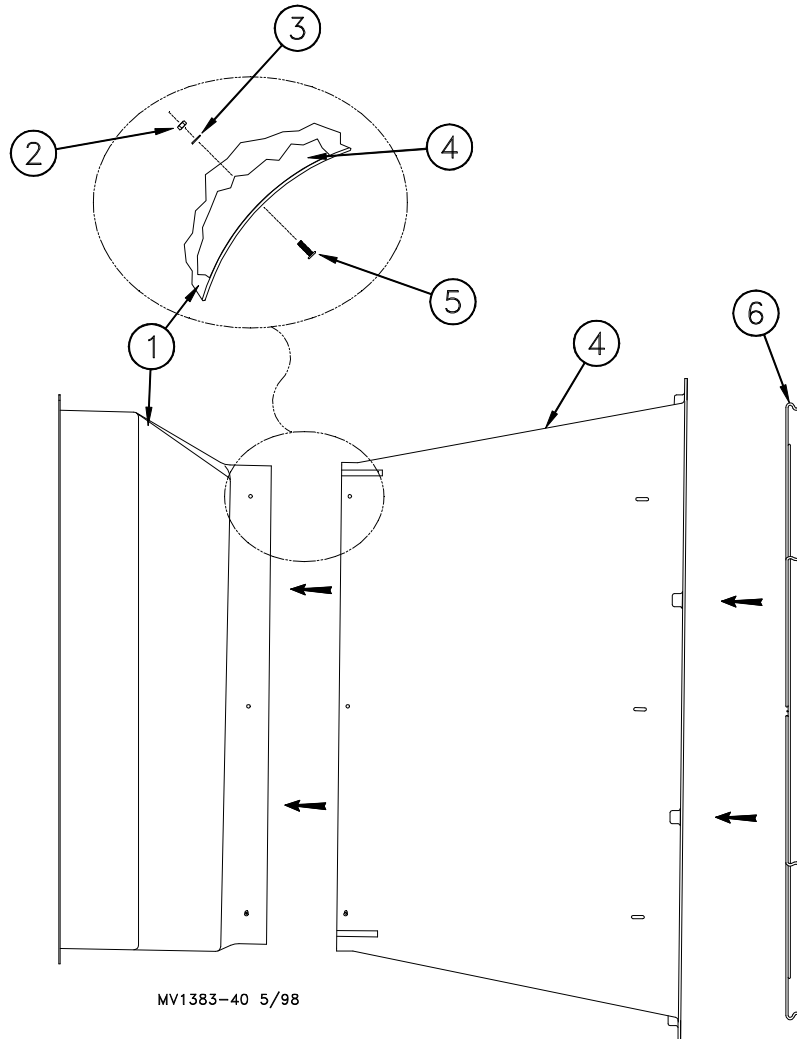

Figure 5. Cone Installation
1. Slide the Cone onto the Shroud—the Shroud fits inside the Cone. **See Figure 5.** 4" slots are cut into the edge of the cone to allow expansion as the cone is slide onto the shroud.